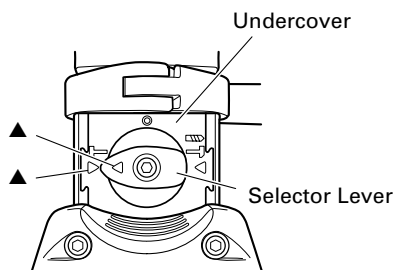

Fig. 7
- (1) Switching to “hammering”
- (b) Align ▲ of the selector lever with ▲ on the T side of the undercover as illustrated in Fig. 7.